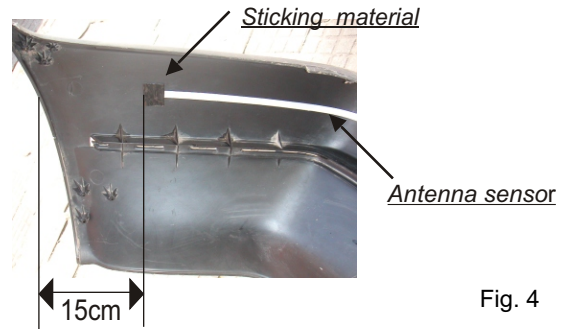

Fig. 4
**NOTE: 1) It is advisable to start and finish the application of the antenna sensor tape at about 15 cm from the both end of the bumper (Fig. 4).**